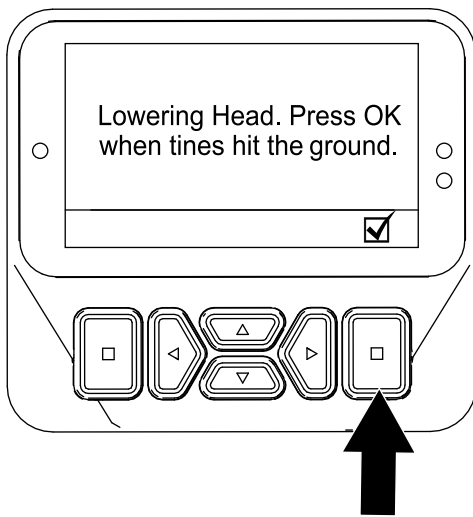

Figure 64
6. When any tine touches the ground, press the select button on the Lowering Head screen (Figure 64).